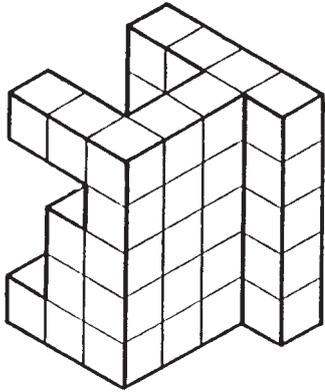
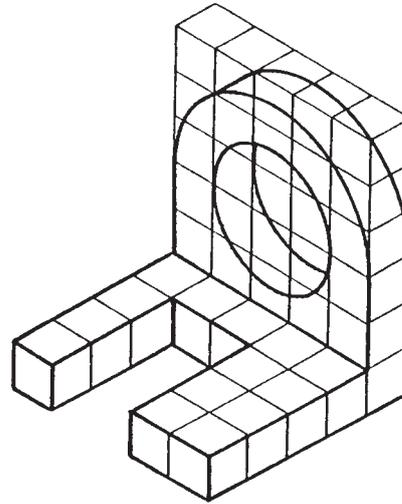
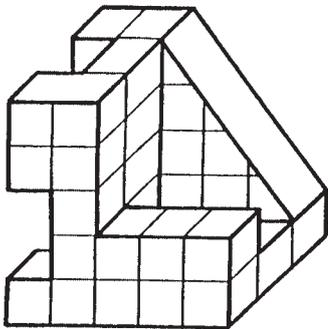

Figure 1a
Figure 1b
Figure 1c
- 3.1 In Section 6, figure 1 shows four simple engineering components. Figure 1a and figure 1b are drawn in isometric projection and figure 1c and figure 1d are drawn in oblique projection. You must redraw the isometric components in oblique projection and the oblique components must be redrawn in isometric projection.
- 3.3 Draw full size the two isometric projections figures 1a and 1b in oblique projection:
- 3.3.1 Figure 1a in oblique projection.
- 3.3.2 Figure 1b in oblique projection.
- 3.4 Draw full size the two oblique projections figures 1c and 1d in isometric projection:
- 3.4.1 Figure 1c in isometric projection.
- 4.3 The two isometric projections figures 1a and 1b in oblique projection drawn full size:
- 4.3.1 Figure 1a in oblique projection. ( )
- 4.3.2 Figure 1b in oblique projection. [ ]
- 4.4 The two oblique projections figures 1c and 1d in isometric projection drawn full size:
- 4.4.1 Figure 1c in isometric projection. ( )